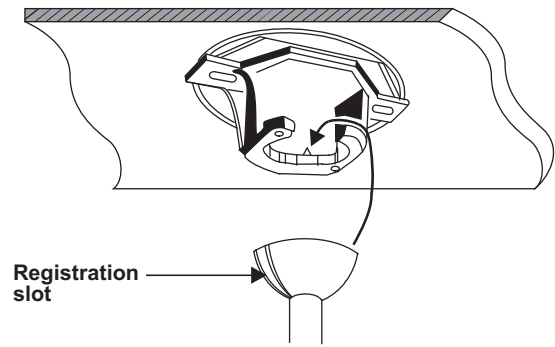

Figure 9
9. Now lift the motor assembly into position and place the hanger ball into the hanger bracket. Rotate down rod until the "Check Tab" has dropped into the "Registration Slot" and the down rod and ball assembly seat firmly. The down rod and ball assembly should not rotate if this is done correctly. (Fig. 9)